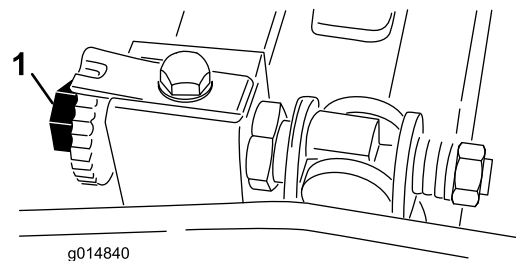

Figure 46
3. Rotate the reel so that a blade crosses the bedknife edge between the first and second bedknife screw heads on the right side of the cutting unit (Figure 46).
6. Turn the right bedbar-adjusting screw until you feel light pressure (i.e. drag) on the shim by sliding it side-to-side (Figure 46).